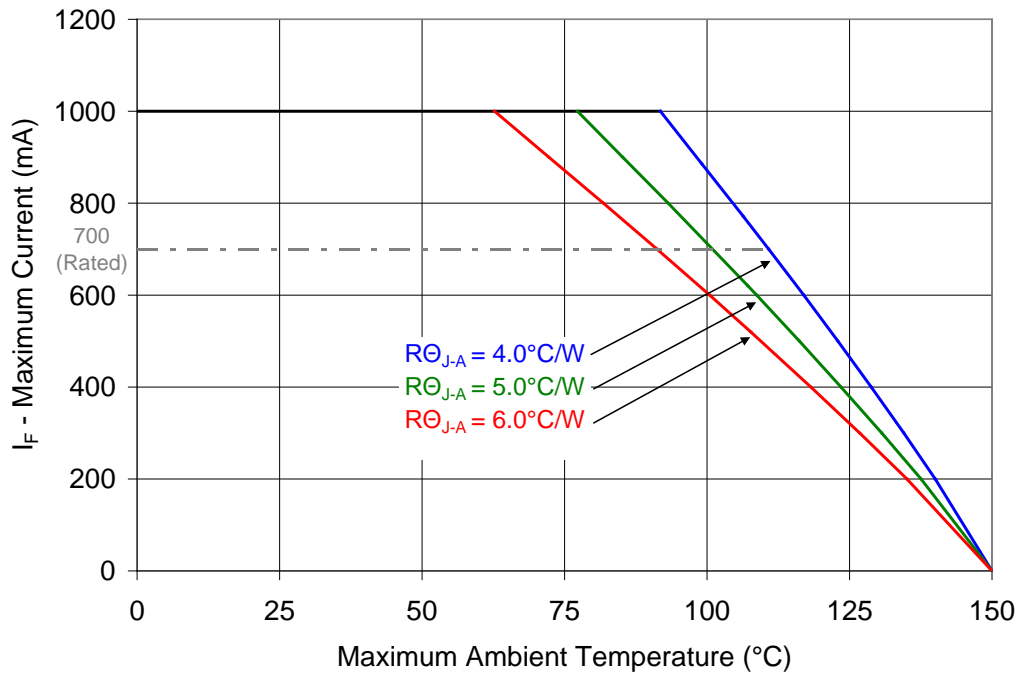

Figure 10: Maximum forward current vs. ambient temperature based on  $T_{j(\text{MAX})} = 150^{\circ}\text{C}$ .
- Maximum DC forward current is determined by the overall thermal resistance and ambient temperature. Follow the curves in Figure 10 for current derating.
Notes for Figure 10: